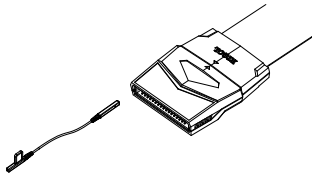

图 1
- ◆ 方法一：用户可通过前端引线单独连接各个被测信号。通过前端引线上的通道标示以及探头前端上的颜色信息可方便地识别每个信号所对应的通道号，如图 1 所示。
- ◆ Method one: users can connect the signals under test through the probe leads separately. You can easily identify the corresponding channel of each signal by the channel label on the probe leads and the color information on the probe head as shown in Figure 1.